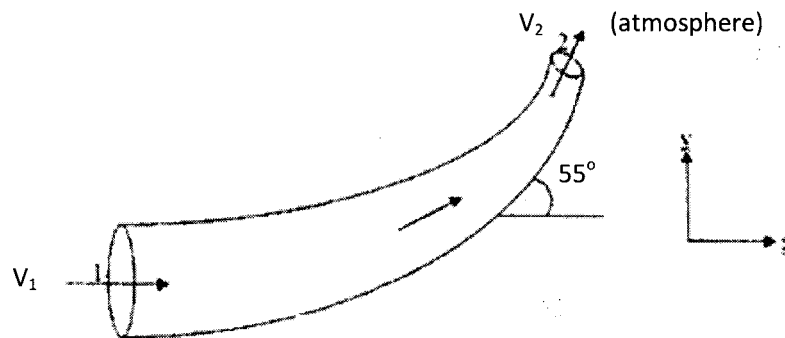

Figure Q4(c)/Rajah Q4(c)
c) A horizontal pipeline terminates in a nozzle pipe that discharges to the atmosphere (Figure Q4(c)). The pipeline has a diameter of 0.8 m and operates with a velocity of 2.5 m/s. Calculate;